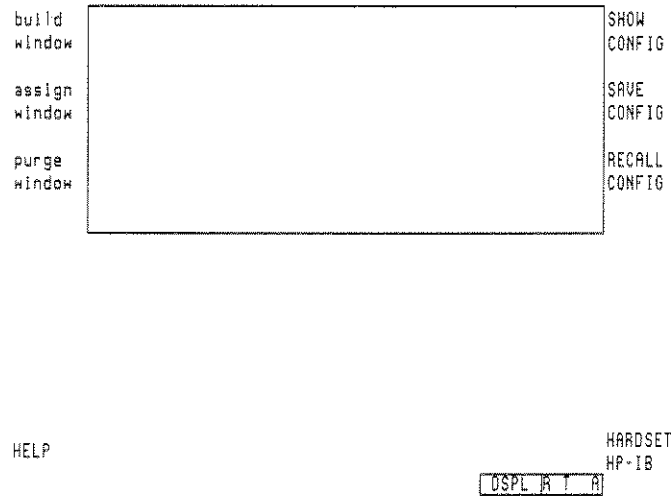

Fig. 27
4. Press **EXECUTE**. The entire window should disappear as in Figure 27.